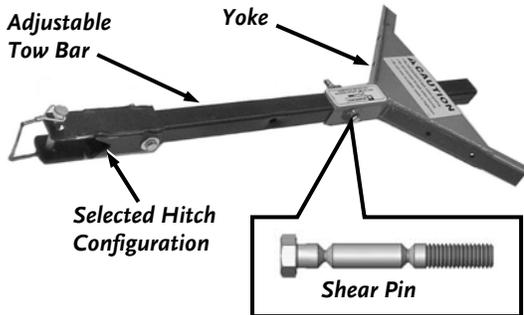

Figure 13
- Select the appropriate hitch configuration and using two 1/2" Wrenches, attach the Hitch to the Adjustable Tow Bar with two 5/16"-18 x 2-1/2" Bolts, 5/16" Flat Washers, and 5/16"-18 Lock Nuts (**Figure 13**).
- Use only the shear pin provided; use of any other bolt may cause damage to your DR Power Grader. See figure 13.